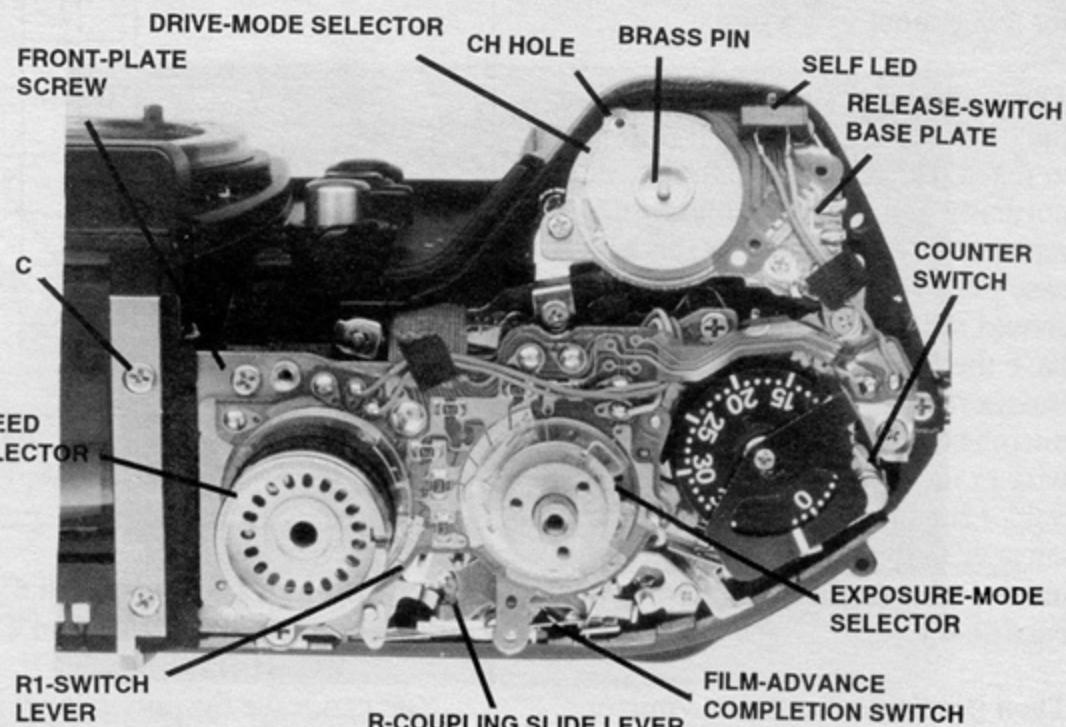

FIG. 4 RELEASE-SIDE TOP COVER REMOVED
Note: In the sprocket-latched position, you may not be able to reach the 2 setscrews. It's then necessary to disengage and reposition the sprocket. If you've removed the release-side top cover, move the R-coupling slide lever, Fig. 4, slightly toward the center of the camera until the sprocket disengages. If the release-side top cover is installed, disengage the sprocket by pushing the release button (the charge motor runs briefly).
2. Finder rail. Adjust the position of the release-side rail (C in Fig. 4) until the finder slides in freely with minimum sideplay (the rewind side finder rail keys to the front-plate casting).
6. Release stroke. Prerelease switch closes when the release button moves down $0.5 \pm 0.1\text{mm}$. Release switch closes when the release button moves down $1.0 \pm 0.2\text{mm}$. Adjust by changing the pin in the release-shaft bushing, Fig. 4. Nikon provides the pin in 5 lengths, identified by the grooves in the pin. Part #—1K360...
13. remove brass pin, center of release-switch brass bushing, Fig. 4
2. Set the power switch (drive-mode selector) to an on position. To set the CH mode, align the slot in the drive-mode selector with the hole in the release-switch base plate, Fig. 4.
3. Remove the lock pin from the center of the speed dial—insert the lock pin into the release-switch bushing (in place of the pin, Fig. 4) for use as a release button.
1. Turn the speed selector to the locked position (X setting), Fig. 4.
2. Turn the drive-mode selector until its slot aligns with the hole in the release-switch base plate, Fig. 4 (CH setting).